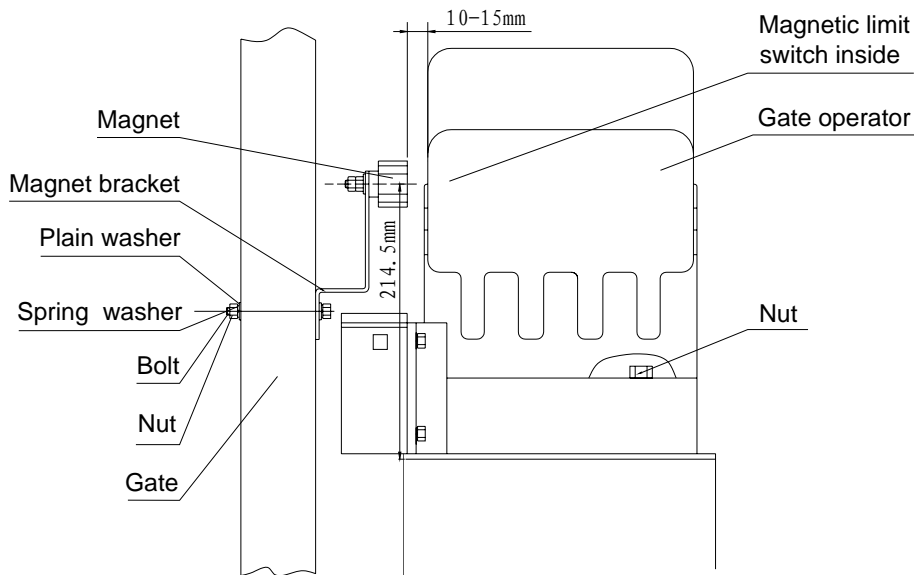

Fig.7
Install the magnet and magnetic limit switch as shown in Fig.7. The magnet and limit switch are used to control the position of the gate. When the magnet is installed, release the gear clutch and push the sliding gate manually to pre-determine the position. Fit the magnet bracket to the gate and then tighten the gear clutch. The lower bracket is for open position and higher bracket is for close position. Finally adjust the magnet to the proper position by moving the gate with the motor. The magnet should be .39 - .59 "away from the magnetic limit switch. If it is too far away, the switch will fail to work. The distance between the magnet and the operator should be @ ½" (12mm) with the operator cover on. Adjust the position of the magnetic limit switch until the positions of the opening and closing meet the requirement.
(See Fig.7 terminal 5)
- Set auto-close function (This feature can be selected to make the gate stay open for some time before it automatically closes. The auto-close time can be adjusted to between 0 and 44 seconds.): please turn on the second and the third DIP switch (See Fig.7 terminal 5) to ON position. Press the remote control button (button 1, button 2 or button 3) that has been programmed to open the gate (see **Verify open direction** section). Stop the gate at any position by pressing the same button, wait for some seconds according to your requirements (the range is 1~44 sec.), this period of time is regarded as 'auto-close time'. Close the gate by pressing the same button. Press the button again to stop the gate or the gate will stop automatically at its closed position if the magnetic limit switch is reached. After this setup is complete, return DIP switch 3 to OFF position immediately. Thus the auto-close function has been set.
- Cancel auto-close function: Please turn on the second and the third DIP switch (See Fig.7 terminal 5) to ON position. Press the remote control button (button 1, button 2 or button 3) that has been programmed to open the gate (see **Verify open direction** section). Stop the gate at any position by pressing the same button, wait until the gate close automatically (45 sec.). Press the same button to stop the gate or the gate will stop automatically at its closed position if the magnetic limit switch is reached. After this setup is complete, return DIP switch 3 to OFF position immediately. Thus the auto-close function has been canceled.
- *Set width of pedestrian mode: Please turn on the second and the third DIP switch (See Fig.7 terminal 5) to ON position. Press button 4 to open the gate (see **Verify open direction** section), Wait until the gate travels the distance according to your requirements (the distance range is 0.3m~1.5m or wait for 3~10 sec.), it is regarded as 'the width of pedestrian mode'. Then press the same button/button 4 to stop the gate, wait for some seconds (1~ 44 sec.). Close the gate by pressing the same button/button 4. Press the same button again to stop the gate or the gate will stop automatically at its closed position if the magnetic limit switch is reached. After this setup is complete, return DIP switch 3 to OFF position immediately. Thus the **width of pedestrian mode** has been set. If you open the gate with button 4, the gate will stop at the expected position that you have set.
- *Set auto-close function of pedestrian mode: Please turn on the second and the third DIP switch (See Fig.7 terminal 5) to ON position. Press button 4 to open the gate (see **Verify open direction** section), wait some seconds (3~10 sec.). Then press the same button/button 4 to stop the gate, wait some seconds according to your requirements (1~44 sec.), this period of time is regarded as 'auto-close time of pedestrian mode'. Close the gate by pressing the same button/button 4. Press the same button again to stop the gate or the gate will stop automatically at its closed position if the magnetic limit switch is reached. After this setup is complete, return DIP switch 3 to OFF position immediately. Thus the **auto-close function of pedestrian mode** has been set.
- *Cancel both width and auto-close function of pedestrian mode: Please turn on the second and the third DIP switch (See Fig.7 terminal 5) to ON position. Press button 4 to open the gate (see **Verify open direction** section). Wait for more than 15 sec.. Then press the same button/button 4 to stop the gate. Wait until the gate close automatically (45 sec.). Press the same button to stop the gate or the gate will stop automatically at its
*Cancel width of pedestrian mode, keep auto-close function of pedestrian mode: Please turn on the second and the third DIP switch (See Fig.7 terminal 5) to ON position. Press button 4 to open the gate (see **Verify open direction** section). Wait for more than 15 sec.. Then press the same button/button 4 to stop the gate. Wait some seconds according to your requirements (1~44 sec.). Then press the same button/button 4 to close the gate, press the same button again to stop the gate or the gate will stop automatically at its closed position if the magnetic limit switch is reached. After this setup is complete, return DIP switch 3 to OFF position immediately. Thus the width of pedestrian mode has been canceled, the auto-close function of pedestrian mode has been reserved.
*Keep width of pedestrian mode, cancel auto-close function of pedestrian mode: Please turn on the second and the third DIP switch (See Fig.7 terminal 5) to ON position. Press button 4 to open the gate (see **Verify open direction** section). Wait some seconds (3~10 sec.), then press the same button/button 4 to stop the gate. Wait until the gate close automatically (45 sec.). Press the same button again to stop the gate or the gate will stop automatically at its closed position if the magnetic limit switch is reached. After this setup is complete, return DIP switch 3 to OFF position immediately. Thus the width of pedestrian mode has been reserved, the auto-close function of pedestrian mode has been canceled.
- Tuning the auto-reverse safety function: rotate the 'Force Adj. VR1' knob (See Fig.7 No.14) with a screwdriver. The resistance may be increased or decreased by rotating clockwise or counterclockwise. NOTE: if the gate fails to reverse in the event of obstruction, then the opening force or closing force should be checked for conformity with requirements and adjusted accordingly. The gate will reverse if obstructed when closing, and will stop if jammed when opening. Please exchange wires 'V' and 'W' if the auto-reverse direction is wrong. Exchange wires 'OP' and 'CL' if the limit direction is wrong.